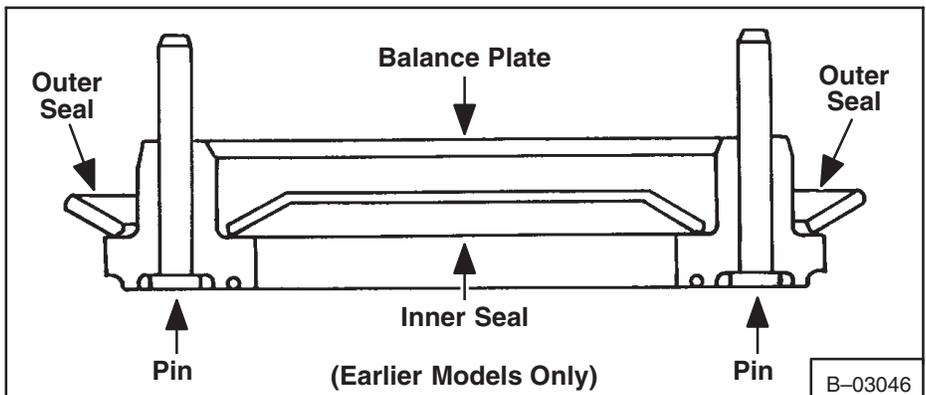

Fig. 3-75 Balance Plate Assembly
**NOTE: Earlier model loaders have pins installed in the balance plate (Fig. 3-75).**
29. Put grease on the inner and outer seals (Fig. 3-75) and install the seals onto the balance plate. Make sure they are in the position shown in figure 3-75.
**NOTE: The pins (Fig. 3-75) must be in alignment with the holes in the balance plate.**